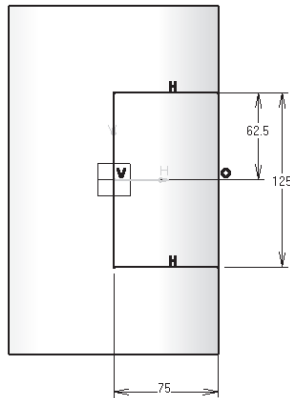

Figure 6-91 Sketch of the second feature
- Create the second feature by extruding the sketch drawn on a plane created at an offset distance from the xy plane, refer to Figures 6-91 and 6-92.
3. Draw the sketch, as shown in Figure 6-91, and exit the **Sketcher** workbench.